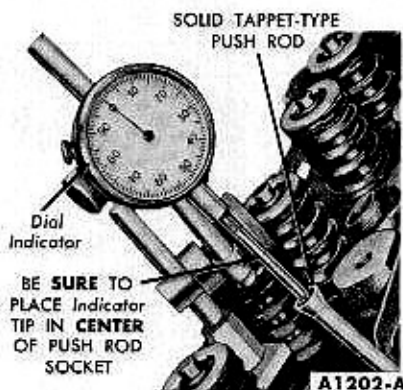

FIG. 1—Camshaft Lobe Lift
2. Make sure the push rod is in the lifter push rod cup. Install a dial indicator in such a manner as to have the actuating point of the indicator in the push rod socket and in the same plane as the push rod movement (Fig. 1).